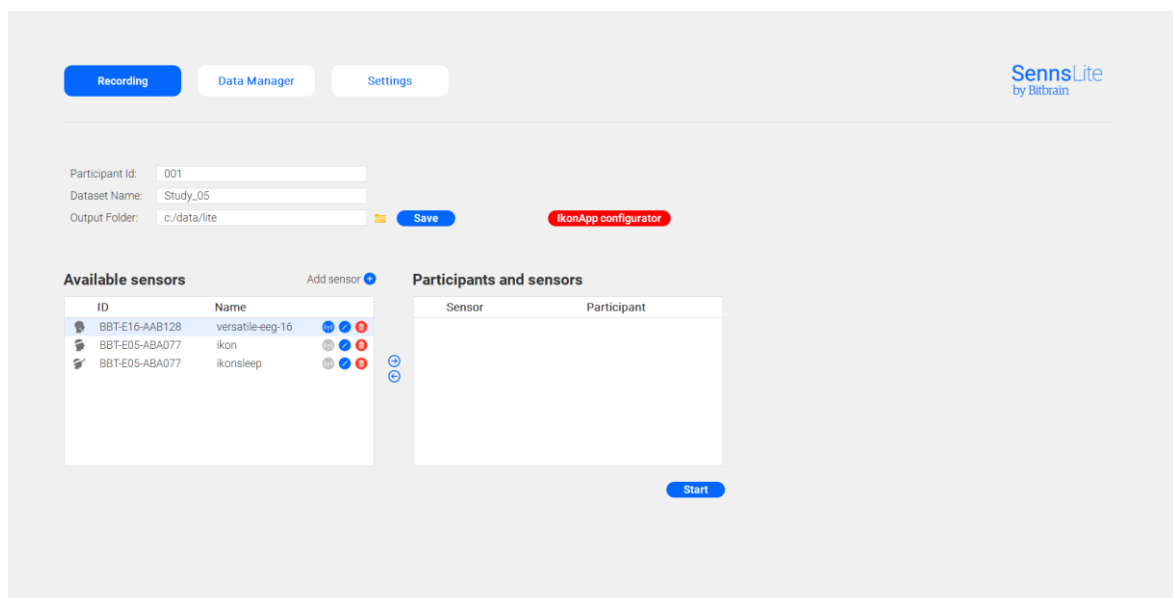

Figure 54. Ikon App Configurator button appears red until the parameters are set
3. Click on the red "Ikon App Configurator" button to set the desired parameters for the study (Figure 54).